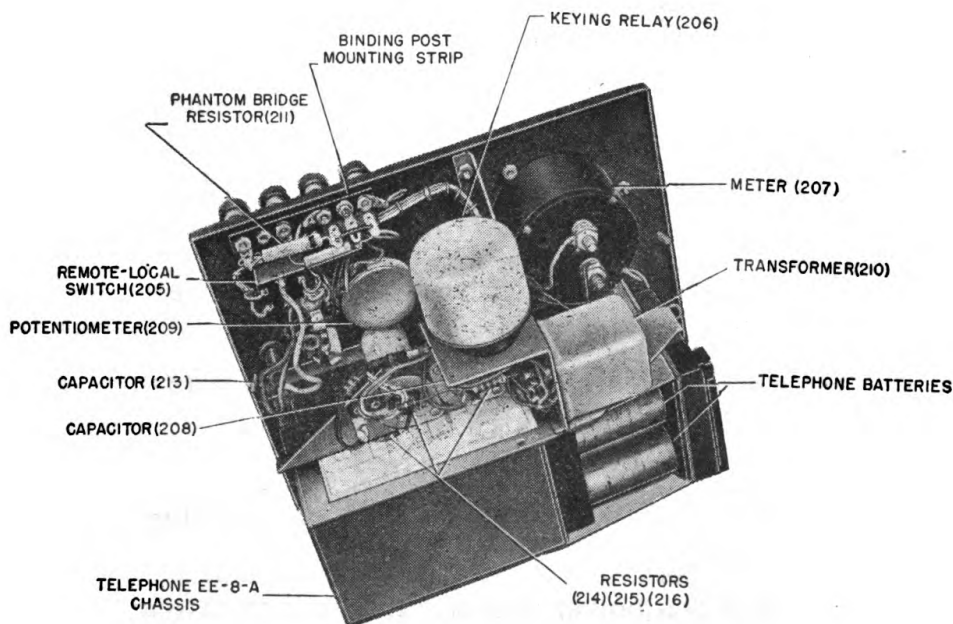

Fig. 14—Control Unit RM-12-C—chassis equipment
(1) Figures 14 to 18 show the arrangement of control unit equipment on their respective chassis.
(2) Schematic and wiring diagrams of the RM-12-(*) and